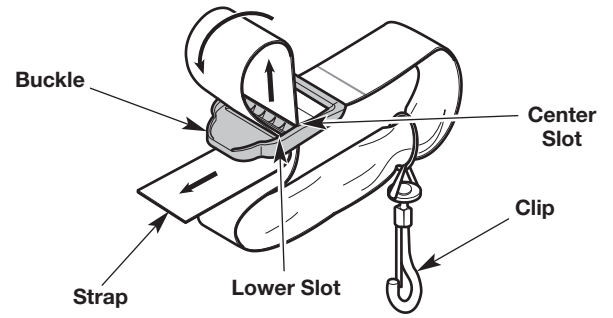

Fig. 13
1. Push the strap up through the center slot in the buckle (Fig. 13).
2. Bend the strap over and push it down through the lower slot in the buckle (Fig. 13).